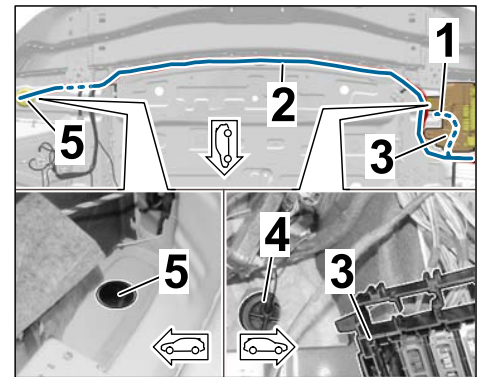

Figure 19
3.2.4 Rear end plate area and grommet/stopper for luggage compartment floor (⇒ *Figure 19*)
- Branch for exhaust flap (left) to grommet/stopper for luggage compartment floor, left (beneath fuse box in luggage compartment (left) → branch for exhaust flap on the right of the rear end plate → along rear end plate (⇒ *Figure 19-top-*) → grommet/stopper for luggage compartment floor, right.